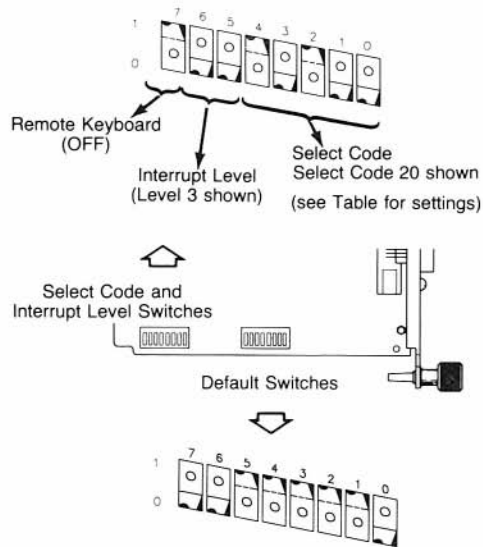

Figure 5-12. HP 98628A Datacomm Interface Switches
- a. Find the set of select code and interrupt level switches by referring to Figure 5-12. Switches 0 thru 4 in this group determine the select code.
- a. Find the set of select code and interrupt level switches by referring to Figure 5-12. Switches 5 and 6 in this group determine the interrupt level.
- a. Find the set of select code and interrupt level switches by referring to Figure 5-12. Switch 7 in this group is the Remote switch.
- If you are connecting a terminal to this interface and want the terminal to be the system console, set this switch to **0** (remote), which is *opposite* that shown in Figure 5-12. Be aware that the boot ROM will not recognize this terminal as the system console, even though HP-UX will. No boot ROM messages will appear on the associated terminal; therefore, do not use the HP 98628A as a system console until after HP-UX is installed.
- If you are connecting a terminal to this interface but **do not** want the terminal to be the system console, set this switch to **1** (OFF) as shown in Figure 5-12.
- a. Find the Default switch group by referring to Figure 5-12. Switch 0 in this group is the protocol switch.
- If you want the Async protocol, used with most connections, set switch 0 to **0** as shown in Figure 5-12.
- If you want the HP DSN/Data Link protocol, used in networking with an HP 1000 host computer, set switch 0 to **1**, which is *opposite* that shown in Figure 5-12.
- a. Find the Default switch group by referring to Figure 5-12. Switches 1 thru 3 in this group determine the baud rate.
- If connecting a terminal or an HP 2686 *Laserjet* printer to this interface, set the baud rate switches to 9600. To get 9600 baud, set switches 3, 2 and 1 to **1** as shown in Figure 5-12.
- a. Find the Default switch group by referring to Figure 5-12. Switches 4 and 5 in this group determine the hardware handshake.
- If connecting an HP 2686 *Laserjet* printer or an HP 2601A printer, set both switches 5 and 4 to **1** as shown in Figure 5-12. This sets up a non-modem connection with the handshake on.
- If connecting a terminal or HP 39800/01A bar code reader, set both switches 4 and 5 to **0**, which is *opposite* that shown in Figure 5-12. This sets up a non-modem connection with the handshake off.
- a. Find the Default switch group by referring to Figure 5-12. Switches 6 and 7 in this group determine the parity type/character length.
- If connecting a terminal, an HP 2686 *Laserjet* printer, an HP 2601A printer, or an HP 39800/01A bar code reader, set both switches 6 and 7 to **0** as shown in Figure 5-12. This sets up 8 bits/character and no parity.